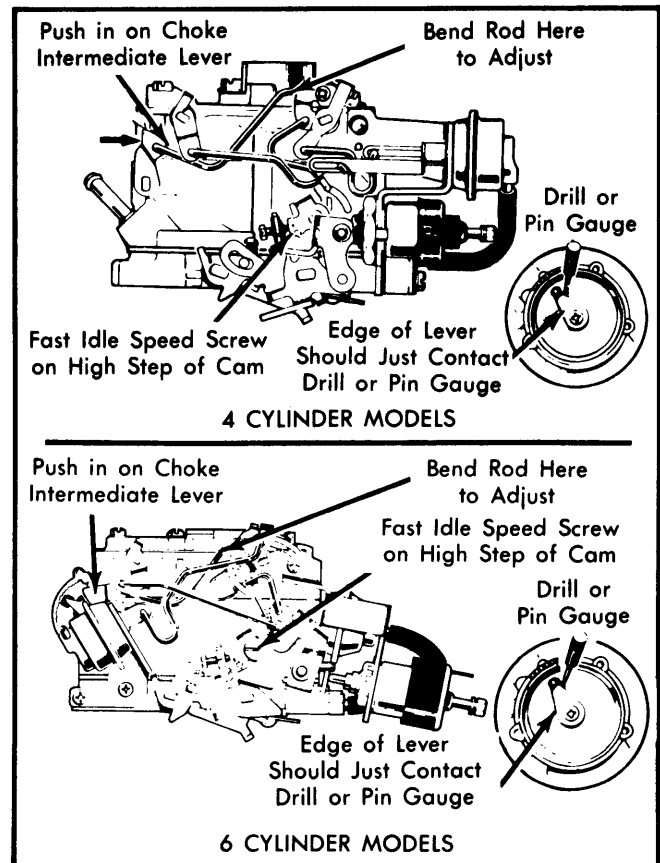

Fig. 4 Adjusting Choke Coil Lever
- 1) Remove choke thermostatic cover from choke housing. Place fast idle speed screw on high step of fast idle cam. See Fig. 4.